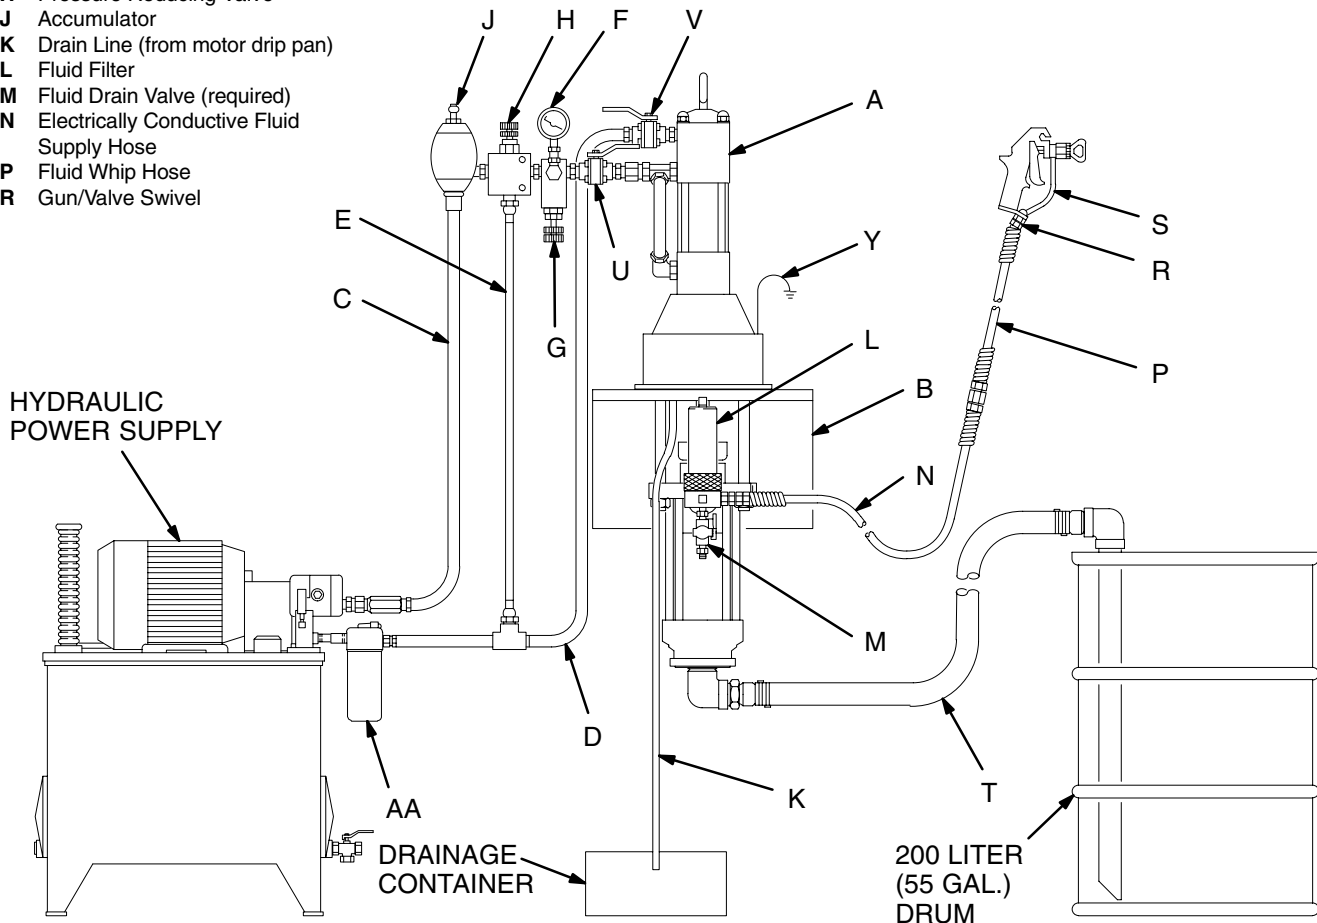

Fig. 4
Fig. 4 is only a guide for selecting and installing system components and accessories. Contact your Graco distributor for assistance in designing a system to suit your particular needs.
Mount the pump (A) to suit the type of installation planned. Fig. 4 illustrates a wall-mounted system. Pump dimensions and the mounting hole layout are shown on pages 36 and 37.
**On the hydraulic supply line (C)**, install the following accessories in the order shown in Fig. 4, using adapters as necessary:
- **A shutoff valve (U)** isolates the pump for service.
- **A fluid pressure gauge (F)** to monitor hydraulic oil pressure to the motor and to avoid overpressurizing the motor or displacement pump, and **a pressure- and temperature-compensated flow control valve (G)** to prevent the motor from running too fast and possibly damaging itself.
- **A pressure reducing valve (H), with a drain line (E)** run directly to the hydraulic return line (D).
- **An accumulator (J)** to reduce the hammering effect caused by the motor reversing direction.
- **A shutoff valve (V)** isolates the pump for service.
- **A filter (AA)** of 10 micron size.
Install the following accessories in the positions shown in Fig. 4, using adapters as necessary:
- **A fluid filter (L)** with a 60 mesh (250 micron) stainless steel element, to filter particles from the fluid as it leaves the pump. It includes a **fluid drain valve (M)**, which is required in your system to relieve fluid pressure in the hose and gun (see the **WARNING** at left).
- **A gun or valve (S)** dispenses the fluid. The gun shown in Fig. 4 is an airless spray gun for light to medium viscosity fluids.
- **A gun swivel (R)** allows freer gun movement.
- **A suction kit (T)** allows the pump to draw fluid from a 200 liter (55 gallon) drum.
1. Refer to Fig. 4 on page 10. Connect the suction kit (T) to the pump's fluid inlet, and place the tube into the fluid supply.
3. Make certain that the supply line shutoff valve (U) and the return line shutoff valve (V) are closed.
5. Hold a metal part of the gun/valve (S) firmly to the side of a grounded metal pail and hold the trigger open.
6. Open the return line shutoff valve (V) *first*, then slowly open the supply line shutoff valve (U).